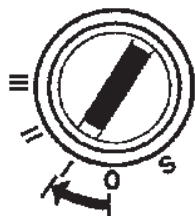

Figure A3: Ignition Switch ON Position
2. Turn the ignition key to the ON position "I" and wait 20 seconds, allowing pre-heaters to activate. See Figure A3.